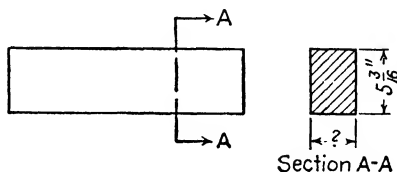

Fig. 70.
6. What must be the width of a rectangular beam whose cross-sectional area is 16.375 sq. in., and whose length is  $5\frac{3}{8}$  in. as shown in Fig. 70?